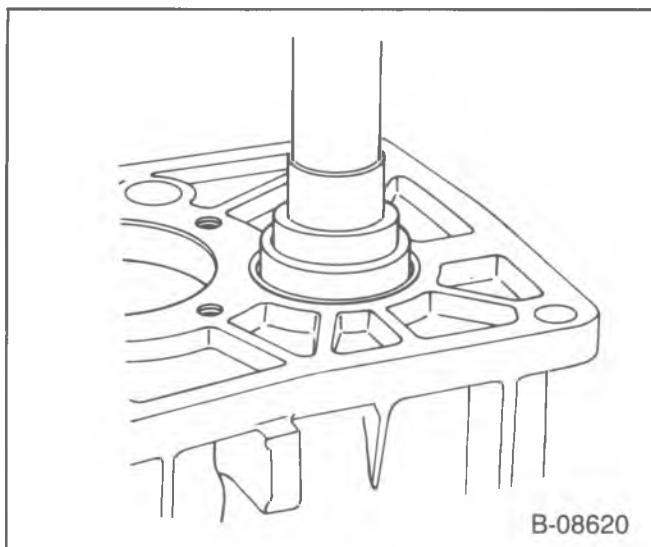

Figure 141—Installing the Countergear Front Bearing
1. Countergear front bearing (642), (figure 141).
2. Countergear thrust washer (641).
3. Countergear (604) and the rear bearing spacer (636).